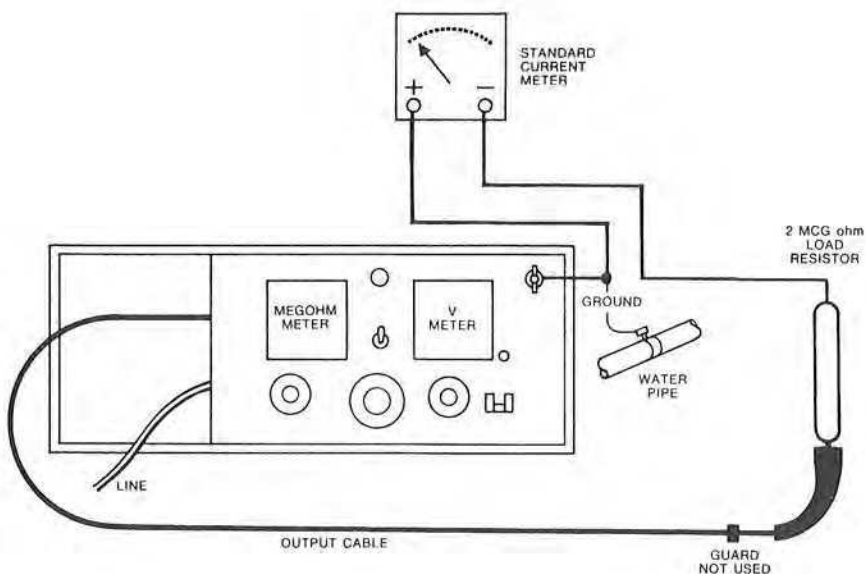

Figure 9: Connections for recalibration of the Megohmmeter.
1. Connect the Test Set as shown in Figure 9.